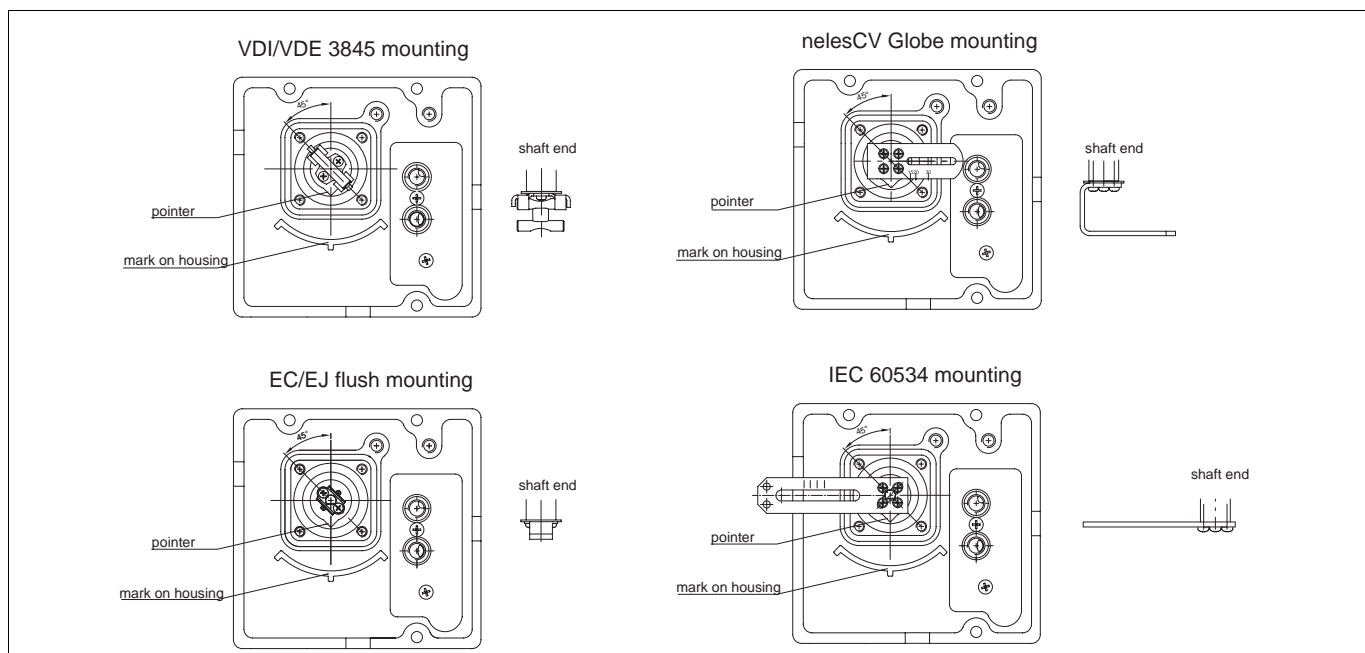

Fig. 5 Shaft coupling alternatives
Shaft coupling alternatives for the controller for Metso actuators are shown in Fig. 5.
- ❑ Mount the U-shaped coupling (47) to the shaft. Apply thread-locking compound to the screws (48) and tighten firmly.
- ❑ Remove all protective plastic plugs (5 pcs.) from all pneumatic connections. Mount the metal plugs (53) to the unused controller connections with sealant. For EJ (single acting, spring to close) and EJA (single acting, spring to open) actuators, mount a metal plug (54) with sealant to the C1 connection at the bottom of the controller.
- ❑ Mount the O-ring (49) into the square groove in the bottom of the controller.
- ❑ Place the valve controller on top of the actuator so that the pointer of the shaft washer (16) is located in the position shown in Fig.5.
- ❑ Fasten the screws (4).
- ❑ Mount the H-shaped coupling (47) to the shaft. Apply the thread-locking compound to the screw (48) and tighten firmly.
- ❑ Remove all protective plastic plugs from the pneumatic connections (5 pcs.). Mount the metal plugs (54) with sealant to the unused controller connections at the bottom of the controller.
- ❑ **BJ and other single acting actuators:** mount a metal plug (53) with sealant to the C1 connection.
- ❑ Set the direction arrow of the actuator in the direction of the valve closure member and attach the ear (2) to the indicator cover in the position shown in Section 12.4. Secure the screw of the ear using e.g. Loctite and tighten firmly.
- ❑ Attach the bracket (1) to the ND9100H.
- ❑ Attach the bracket (1) to the actuator. The shaft coupling of the ND9100H must fit into the ear (2) so that the pointer of the shaft washer (16) is located in the position shown in Fig. 5.